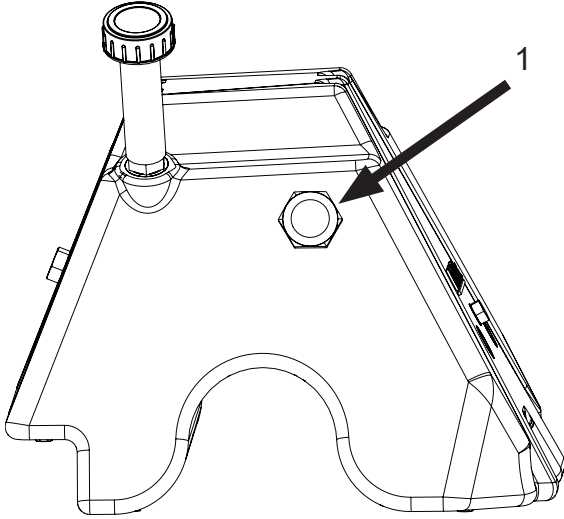

Figure 5
9. Check the oil level in the nylon reservoir sight glass (Figure 5, Item 1). The oil level should be visible in the middle of the sight glass.